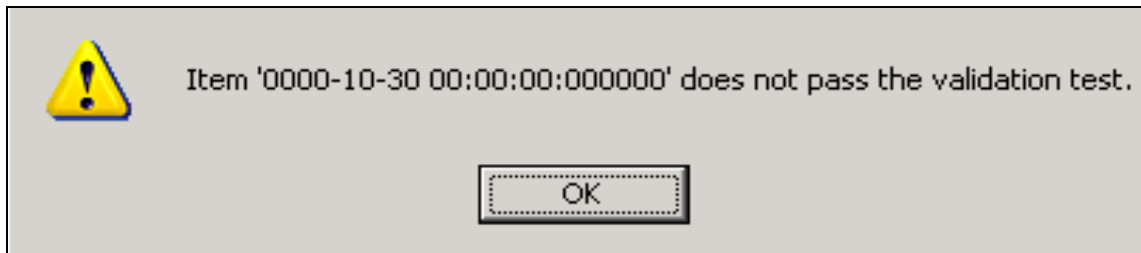

Figure 11-35: Validation message: Item does not pass the validation test
9. Ensure you have entered all of the required information before submitting a report. As data is entered, certain validations will be performed (Figure 11-35).